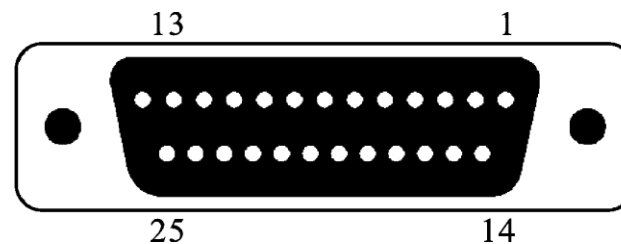

Fig. 4-4
- DB-25-pin socket of serial desktop is as Fig. 4-4 shows: